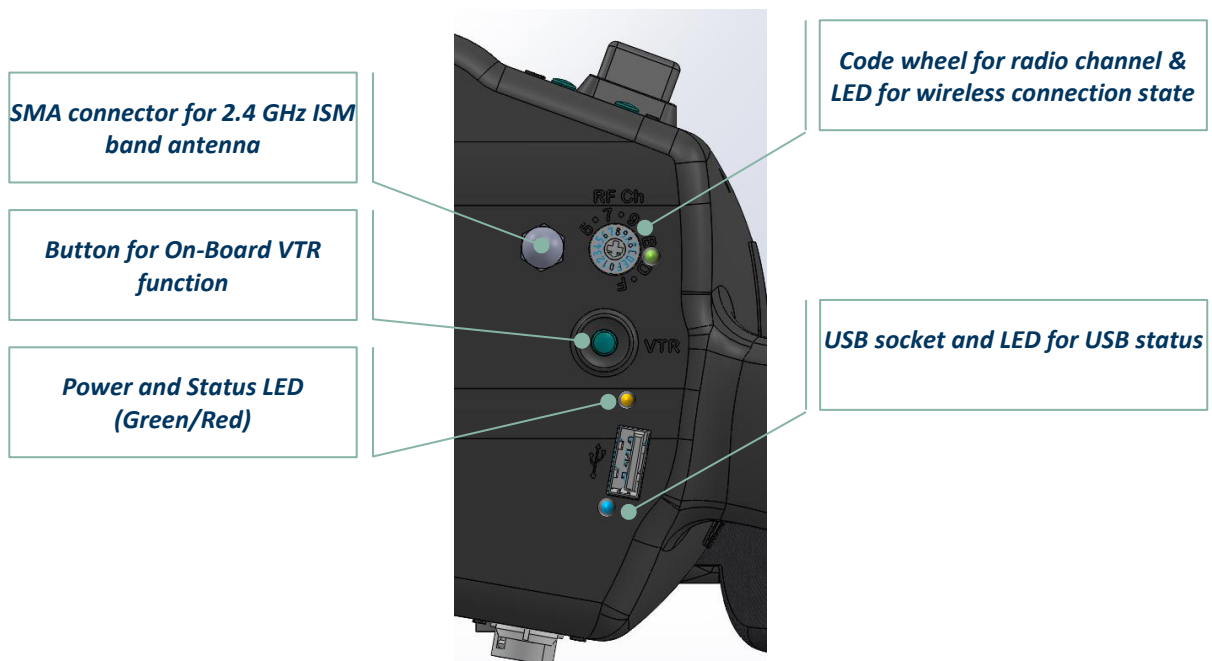

Figure 4
8. Mount the antenna to the Premista Servo drive (see Figure 4) if the Magnum hand unit shall be used for wireless operation and select a radio channel from "5" to F, otherwise set the code wheel to "4" or less.